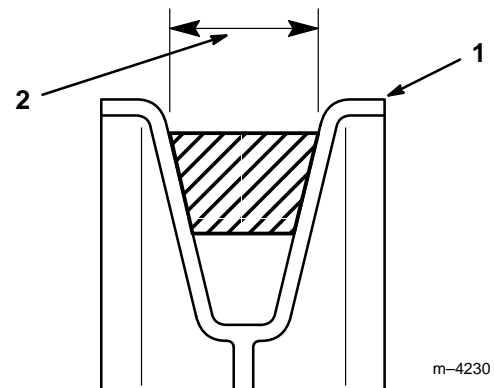

Figure 12
7. Make certain that the wide side of the PTO drive belt is toward the outside diameter of **all (four)** pulleys (Fig. 12).